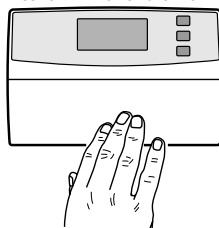

Fig. 6. Mounting thermostat on wallplate.
1. Engage tabs at the top of the thermostat and wallplate. See Fig. 6.